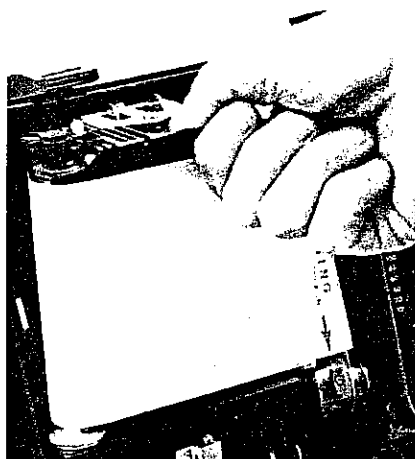

Figure 25
4. Pull out and down on the tab at the top center of the platen assembly to expose the paper spools. (See Figure 25.)
2. Release both catches on the top of the case. Pull out and down on the top of the case front to expose the stylus belt. (See Figure 25.)